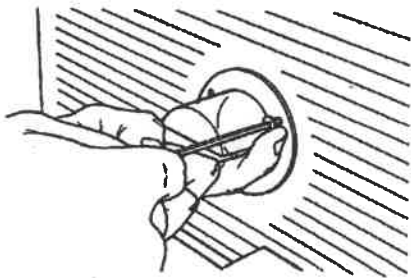

Fig. A-27
38. Attach the Joint-Matic router bit guard with two socket head cap screws, using a 5/32" Allen wrench, as shown in Fig. A-27.